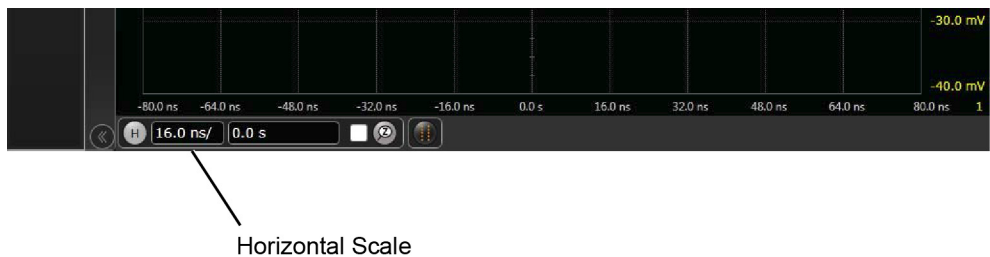

Figure 14 Change Horizontal Scale to 50 ps/division
- 17 Change the oscilloscope’s horizontal scale to 50 ps/div as shown in **Figure 14** on page 32.